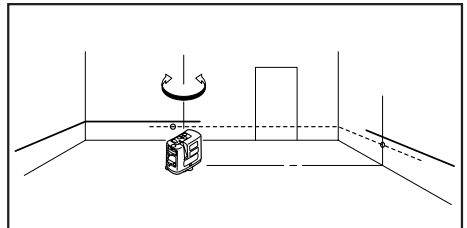

Fig. 7
- 1) Place the unit on the floor of an indoor corner at the point of 3 to 5 m from the one wall and 1 m from the another one. (See the Fig.7)
- Turn the level adjusting screw (10) so that the air-bubble in the round vial (4) is centered.
- 2) Turn on the power switch (5).